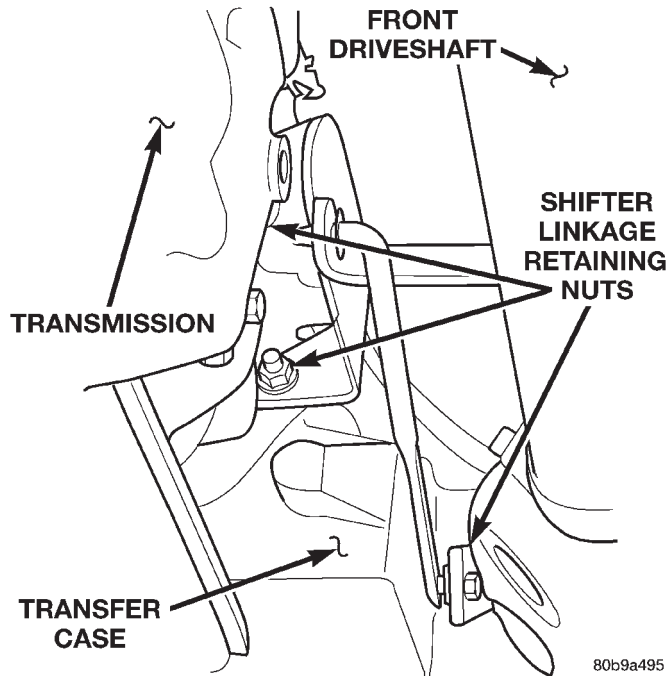

Fig. 21 Transfer Case Shift Linkage — 4x4
(37) Remove the (3) nuts retaining the transfer case shift linkage and position the linkage aside (Fig. 21).